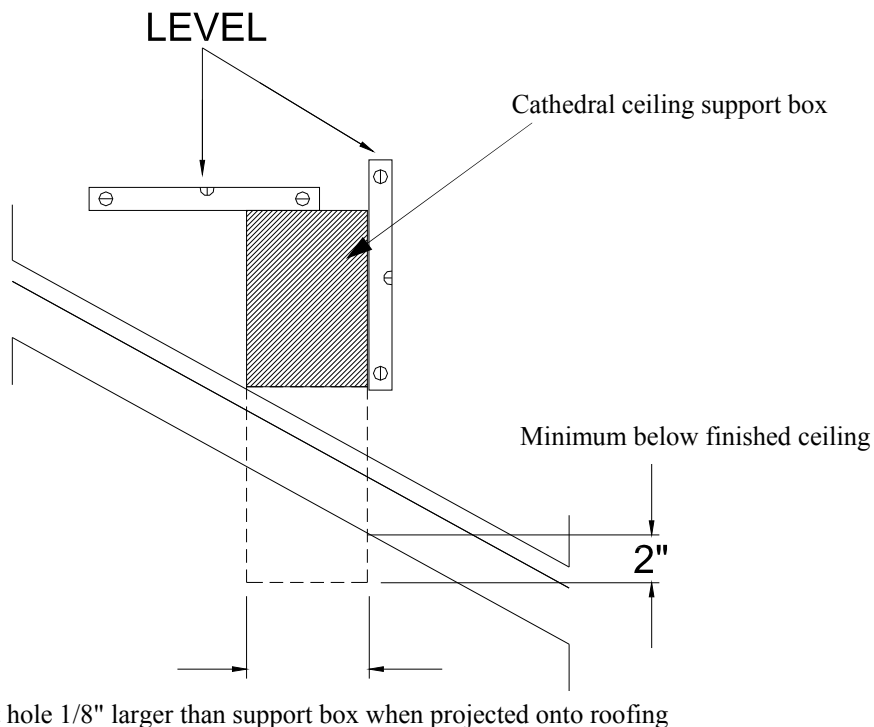

Figure 28– Cathedral Ceiling Support Box Installation
2. Cut the hole $\frac{1}{8}$ " larger than the support box (see Figure 28).
3. Lower the support box through the hole in the roof until the bottom of the box extends at least 2" below the ceiling (see Figure 28). Align the support box vertically and horizontally using a level. Temporarily tack the support box in place through the inside walls and into the roof sheathing.